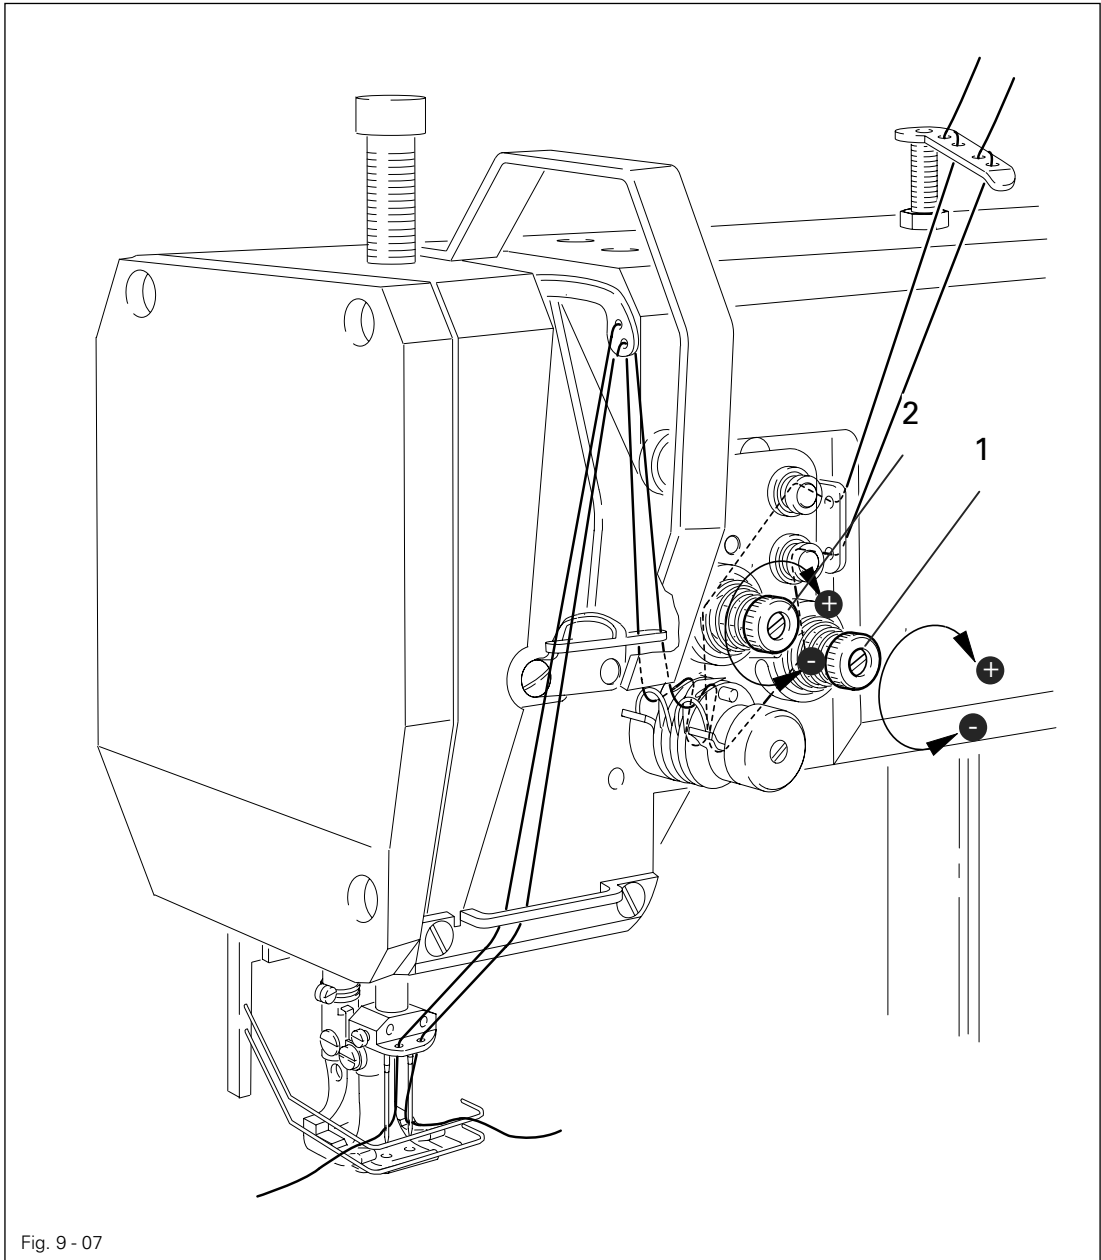

Fig. 9 - 07
- Insert the bobbin as shown in Fig. 9 - 05.
- Thread the needle thread as shown in Fig. 9 - 06. Please ensure that the needle is threaded from the left.
- Thread the needle thread as shown in Fig. 9 - 07. Please ensure that the right needle is threaded from the left and the left needle is threaded from the right.